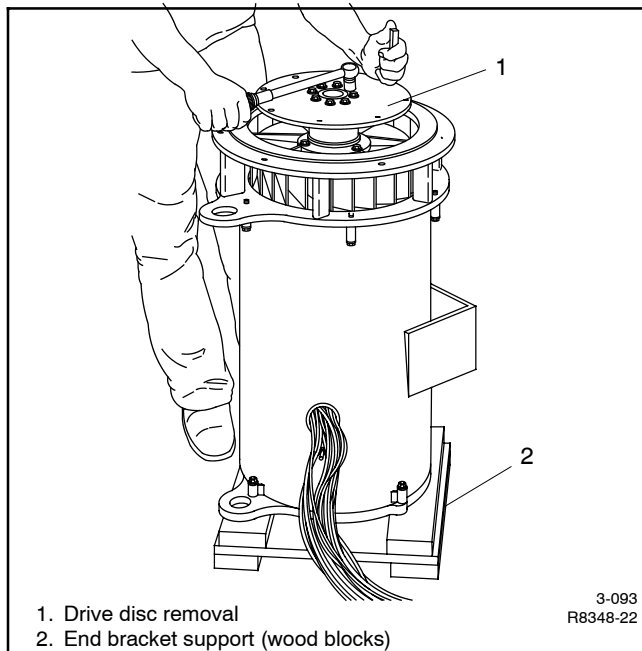

Figure 11-9 Alternator Support, Drive Disc, and Fan Removal
21. To remove the rotor assembly, hook hoist to adapter and place the alternator assembly on the floor in a vertical position. See Figure 11-9. Before lowering assembly, place wood blocks along edge of end bracket to stabilize the stator assembly.
22. Remove the drive discs from the rotor assembly. See Figure 11-9.